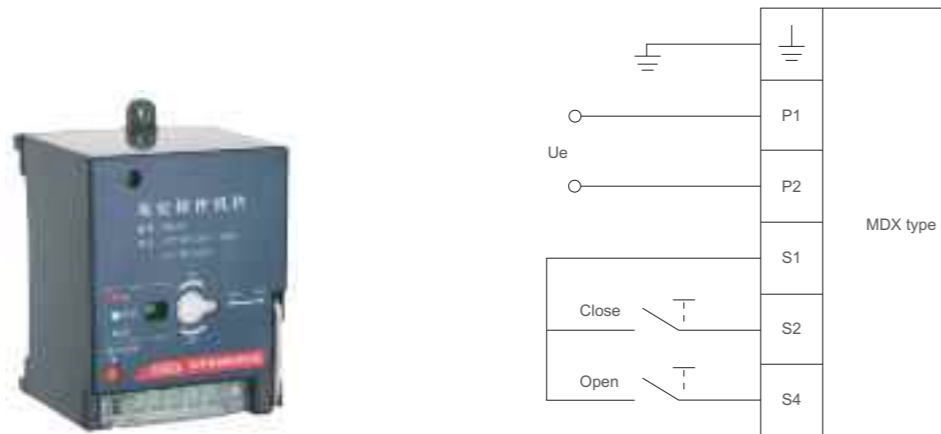

Figure 5. Wiring diagram of the MDX type motor operator
8. See Figure 5 for the wiring diagram of the motor operator